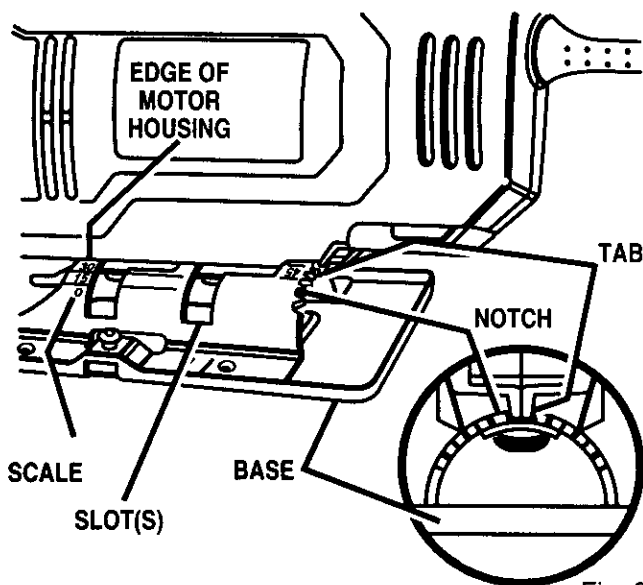

Fig. 9
- Once the desired angle is reached, slide base back until tab on motor housing aligns with the appropriate notch on rear of base. See Figure 9.